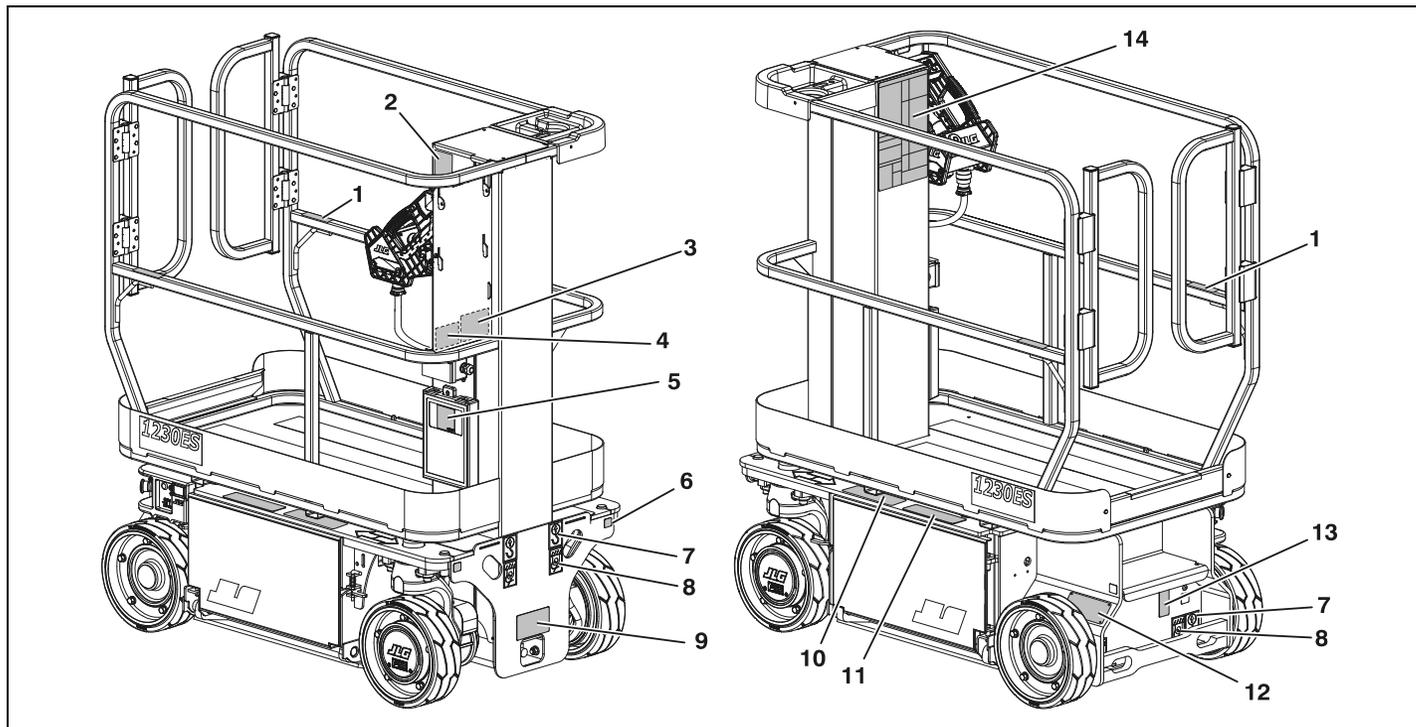

Figure 3-10. 1230ES - Decal Installation.
**Table 3-1. 1230ES - (ANSI and CE) Decal Installation Chart (See Figure 3-10.)**